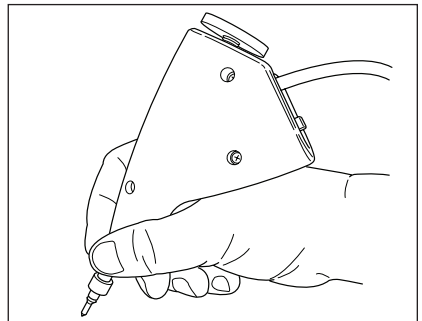

Figure 3. Proper Grip
- Hold the engraver as you would an ordinary pencil. See Figure 3.